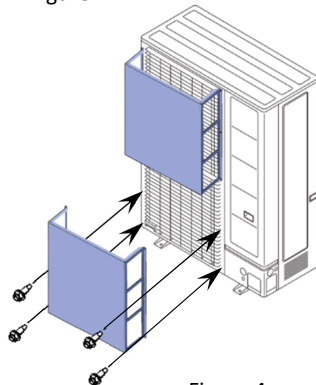

Figure 4
- (4) Install the wind baffle on the lower fan in the same way as the upper fan as shown in Figure 4 and 5.